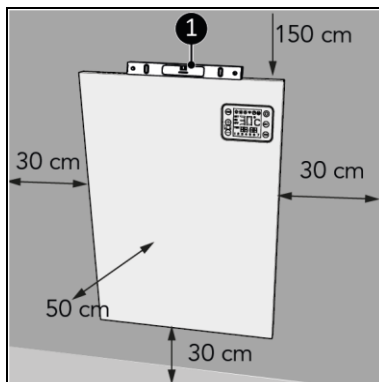

Figure 7
1. Place the device on a vertical and solid surface. Use a spirit level when placing the device (Figure 7, pos. 1).
2. Place the device with a minimum distance (Figure 7) of: